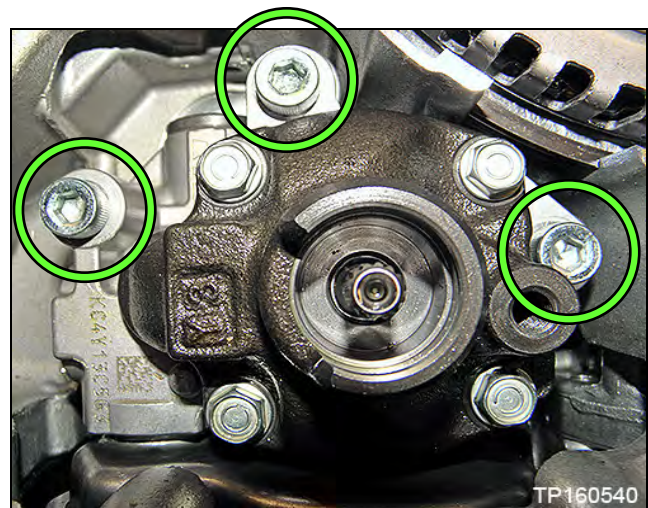

Figure 25B
- b. Remove the three oil pump Allen-head bolts, and remove the oil pump (Figure 25B).